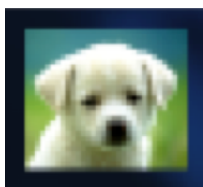

Figure 20. MUT icon
1. On the desktop click the **MUT** icon on the bottom task bar (*Figure 20*) and login.